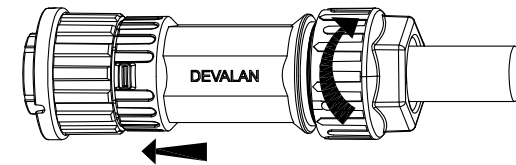

Figure 5.23 Assembly AC terminal
B) Clip plastic fixture (Auxiliary tighten) in socket element , tighten adapter in socket element, then tighten swivel nut with 3.5-4.5N.m torque (see figure 5.23).